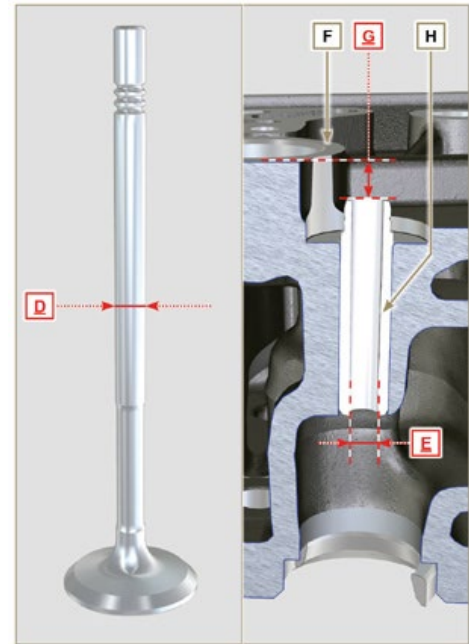

Fig 8.23
Observe values **G** from surface **F** when assembling guides **H** (**Tab. 8.10 - Fig. 8.23**).
- The guides must be worked for value **E** (**Tab. 8.10 - Fig.8.23**) after driving. Contact a rectification workshop for such operations.